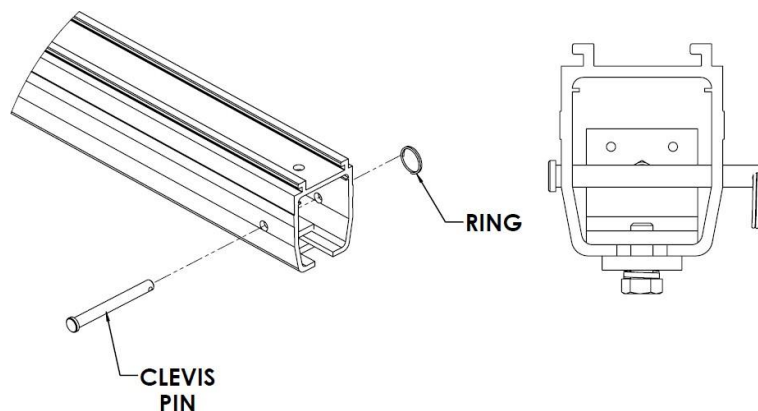

Figure 317: **Clevis Pin and Ring Installed**
6. At all terminal ends, install the clevis pin and ring as shown in Figure 317.